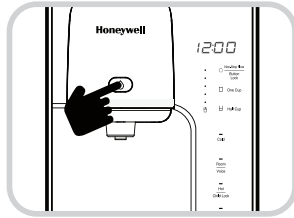

Fig. 22
2. After the unit is in the User Setting mode, press the Out Flow button. (Fig. 22).